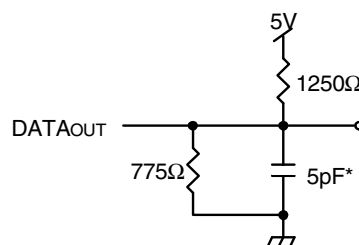

Figure 2. Output Load
1. Transition is measured 0mV from Low or High-impedance voltage with load (Figure 2).
1. Transition is measured 0mV from Low or High-impedance voltage from the Output Test Load (Figure 2).